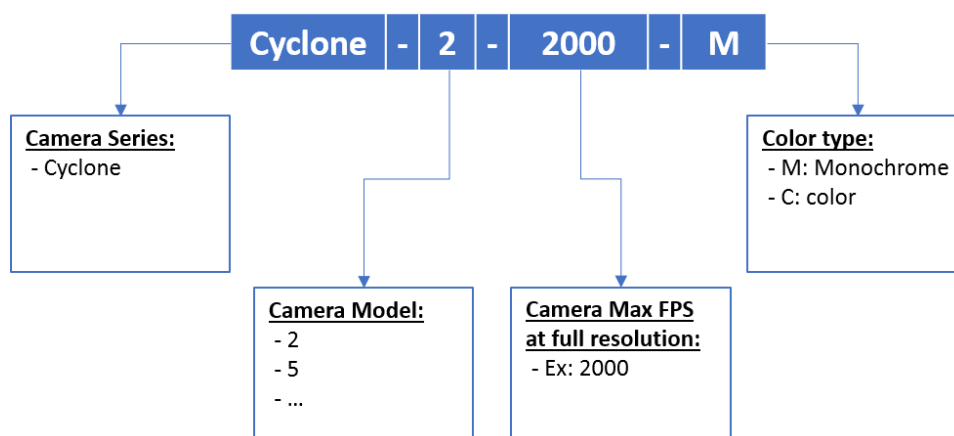

Figure 5: Camera Model Name Decoder
- Ref.: Camera Model Name (see Figure 5)